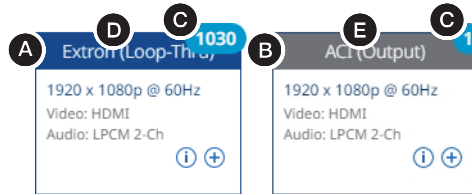

Figure 61. EDID Banners
- EDIDs from Extron products are indicated in blue (see figure 61, **A**).